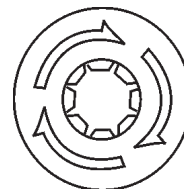

**Figure 60. Battery Switch (OFF)**
6. Set the **battery ON/OFF switch** (Figure 60) to the "OFF" position.